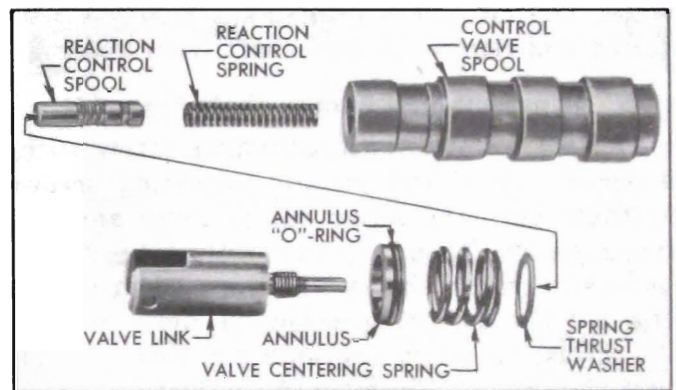

Figure 8-20—Control Valve Spool Assembly
2. Hold annulus down on spool to compress the spring. Then assemble link and tighten to 8-10 ft. lbs. using Remover and Replacer J 6224. See Figure 8-20. Remove the spool assembly from vise. Carefully insert the spool assembly into the valve body. The spool and valve body are selective fits and have very little clearance. Only if properly started can the spool be assembled. DO NOT ATTEMPT TO FORCE THE SPOOL INTO THE VALVE BODY.